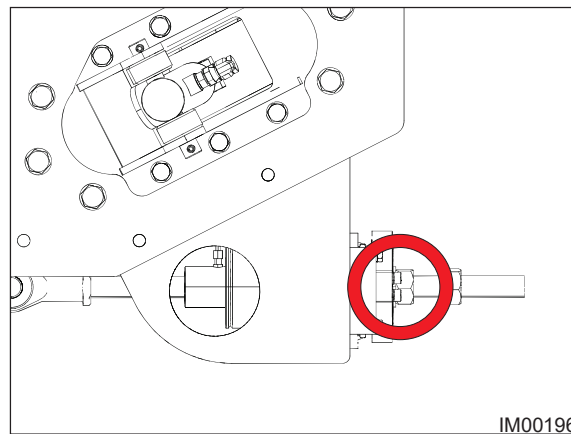

Fig: 7.21 - Compression Plate Nut
12. Tighten the spring tensioning nut (Fig: 7.21). Tighten until the spring compression plate is flush with the compression housing.